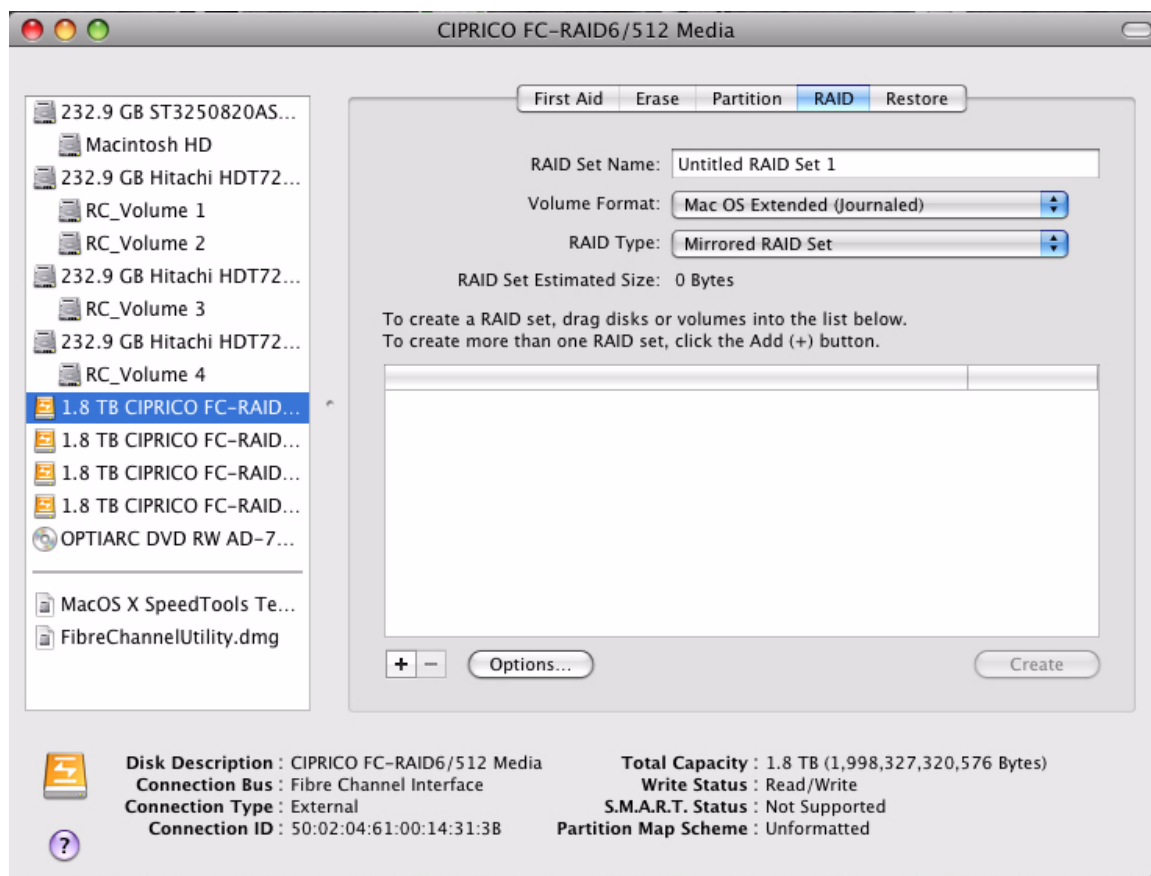

FIGURE 6-11. The “RAID” Tab of the Apple Disk Utility Screen, Showing the Text After the Disk Icon is Clicked.
5. Click on the “RAID” tab at the upper section of the screen. See Figure 6-11.